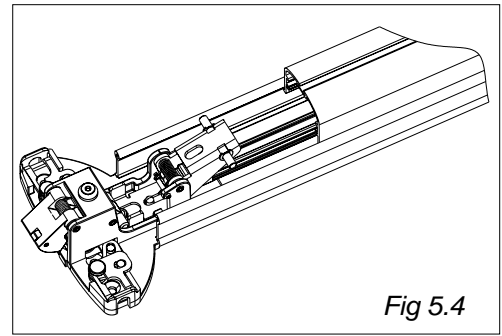

Fig 5.4
- 4) Slide out Touchbar. (See Fig 5.4)